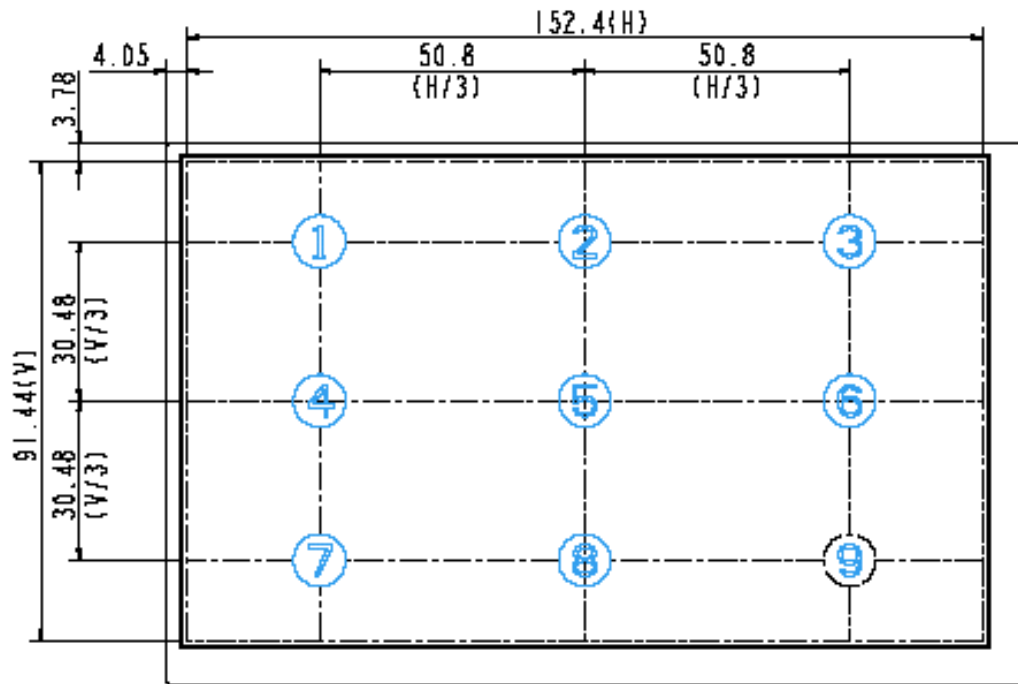

Fig8-1 Measuring point
*3) Definition of luminance : Measure white luminance on the point 5 as figure 8-1.
Definition of Luminance Uniformity: Measure white luminance on the point1~9 as figure8-1.